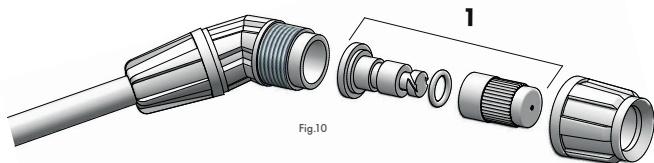
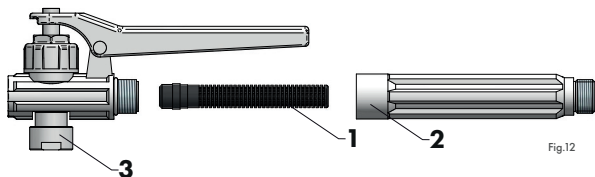

Fig.10
Fig.12
Move the sprayer to the work site. Use the piston rod (fig. 7c) to pump the sprayer (around 20 full motions) until the safety valve operates (fig. 7a/pos. 1). As soon as the safety valve opens (fig. 7a/pos. 1), maximum tank pressure has been reached. Monitor the tank pressure on the pressure gauge (fig. 12/pos. 3).
Point the lance tip (fig. 10) at the location to be sprayed.
During operation, the pressure in the tank will decrease. Monitor the pressure on the pressure gauge (fig. 12/pos.3). Restore the tank pressure by pumping.
With the adjustable nozzle (fig. 10/pos.1) you can regulate the output stream. By tightening or loosening the nozzle tip you can achieve various spraying degrees - from mist to continuous stream.
The filter (fig. 12/pos. 1) located on the lance handle (fig. 12/pos. 2) and the adjustable nozzle (fig. 10/pos. 1) located at the lance tip (fig. 1/pos. 1) must be cleaned periodically and before any prolonged downtime.
Clogged adjustable nozzle on the lance tip (fig. 10/pos. 1).	Unscrew the lance tip and remove the adjustable nozzle (fig. 110/pos. 1). It can be disassembled, cleaned and reassembled.